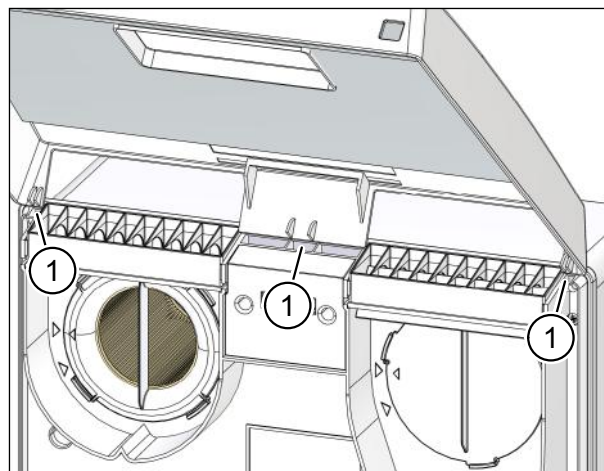

Fig. 5: Cover pivot points
- ▶ Insert the tabs of the cover into the openings (item 1 in Fig. 5) on the top of the ventilation unit.